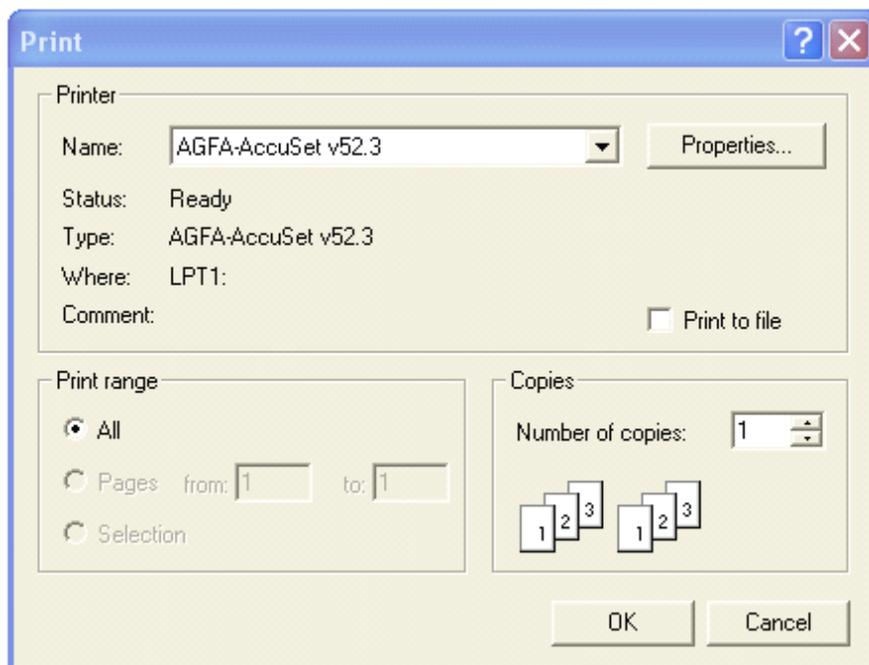

Fig.2.13 Print
**【 Print 】** : Print the PLC configuration, point information, LD, FBD, IL, and ST. When choose **Print**, pop up the standard **Print** dialog box where the printer, print range and copies etc. can be chosen. As shown in Fig.2.13.